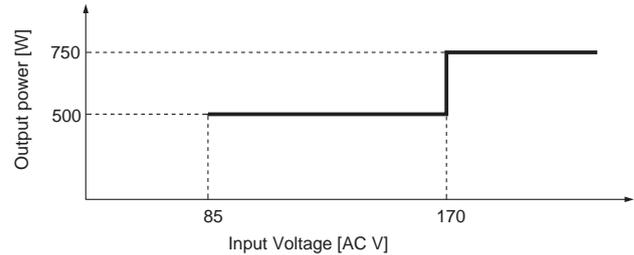

Fig.2.1 Input voltage derating curve (SNDPG750)
■Fig.2.1 shows rated output for each input voltage section.